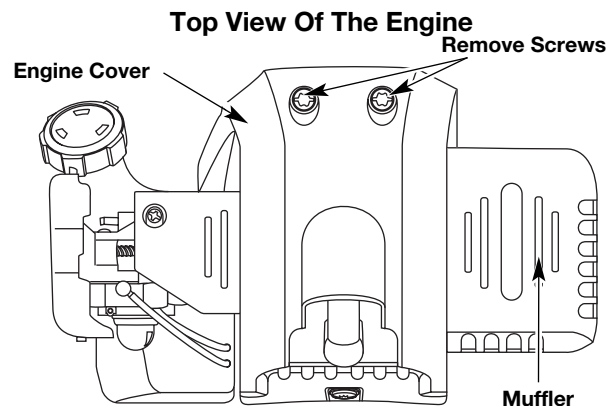

Fig. 36
2. Remove the two (2) screws on top of the engine cover with a Flat-head or T-25 Torx screwdriver (Fig. 36).
6. Remove the engine cover (Fig. 36).